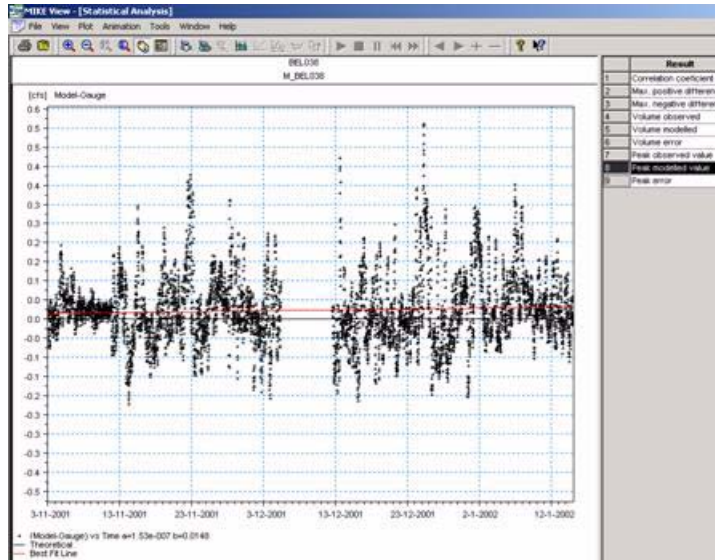

Figure 13.26 Longitudinal Profile Options Menu – Tabular Items
- Select the ‘Insert’ tool (circled in Figure 13.26) and explore the dynamic and static options available to you. Try displaying various items and observing how the LPW is updated.